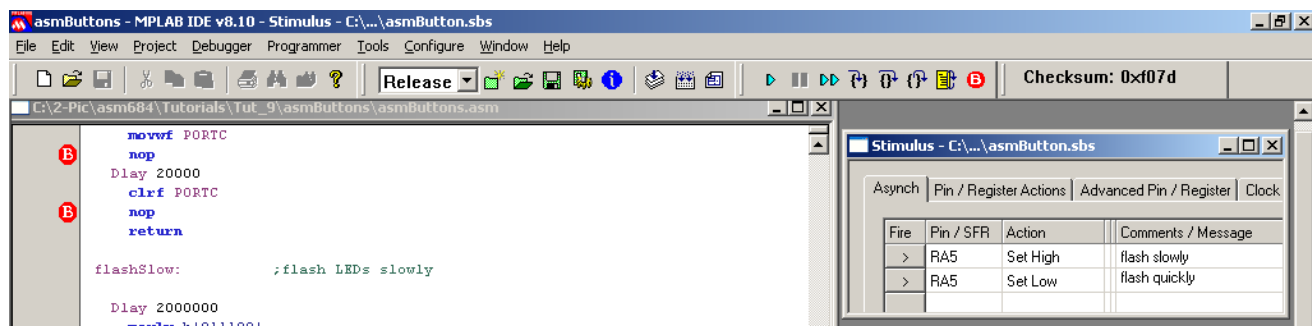

Fig 9.4
6. Resize and position the *Stimulus Controller* in the top right hand corner of your screen (Fig 9.4):